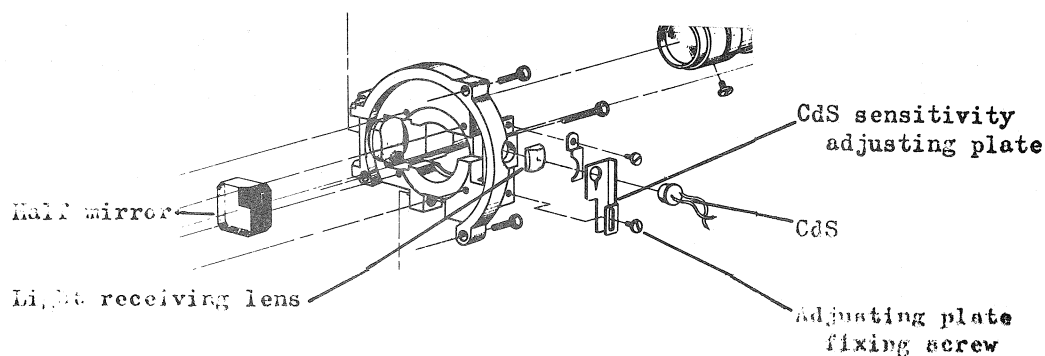

Fig. 30
- 4-2-1. When the correct exposure cannot be obtained by adjusting the meter sensitivity as in 4-1, slide the sensitivity adjusting plate (1 in Fig. 30) attached to the front surface of CdS upward and downward, and adjust the amount of light incident upon CdS. The sensitivity adjusting plate is adjusted as given in 4-1, while observing the auto eye.